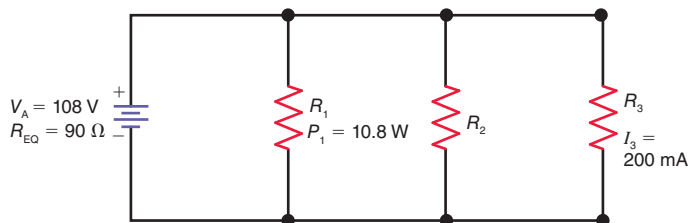

Figure 6-28
6.37 In Fig. 6-28, solve for I_T , I_1 , I_2 , R_1 , R_2 , R_3 , P_2 , P_3 , and P_T .